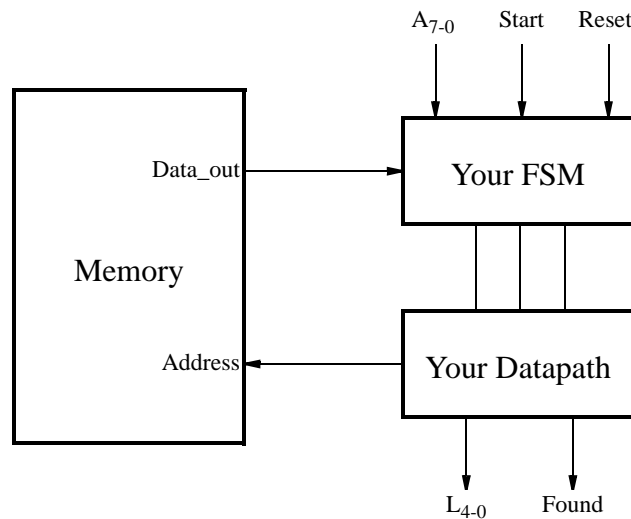

Figure 2: A block diagram for a circuit that performs a binary search.
We wish to implement a binary search algorithm, which searches through an array to locate an 8-bit value  $A$  specified via switches  $SW_{7-0}$ . A block diagram for the circuit is shown in Figure 2.
3. Connect your FSM and datapath to the memory block as shown in Figure 2.